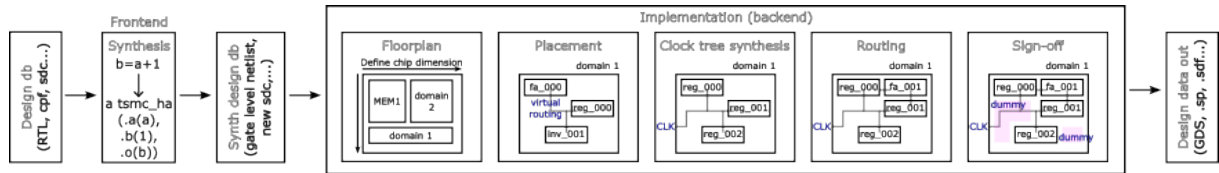

Figure 1: Diagram of a typical Digital Design Flow
- First session. Based on the ALU design to get familiar with the steps in Fig.1.